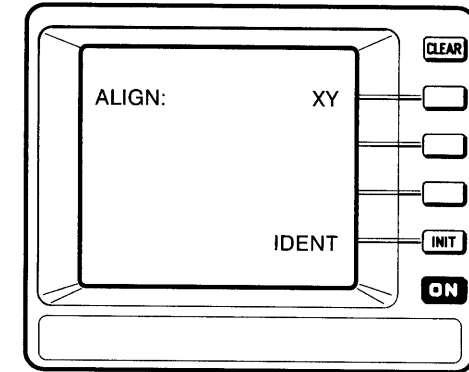

Figure 3-6: Display Alignment Menu
- Step 2:** Press the top menu button. The display appears as shown in Figure 3-6.